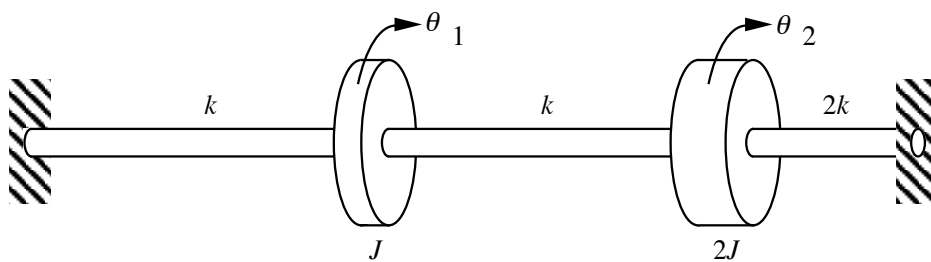

Fig. 3
3. Two rigid discs with moments of inertia J and $2J$ are mounted on three light elastic shafts of torsional stiffness k , k , and $2k$ as shown in Fig. 3. The angles of rotations of the discs from their equilibrium positions are θ_1 and θ_2 respectively. Show that the equation of free torsional vibration of the system can be written in the form